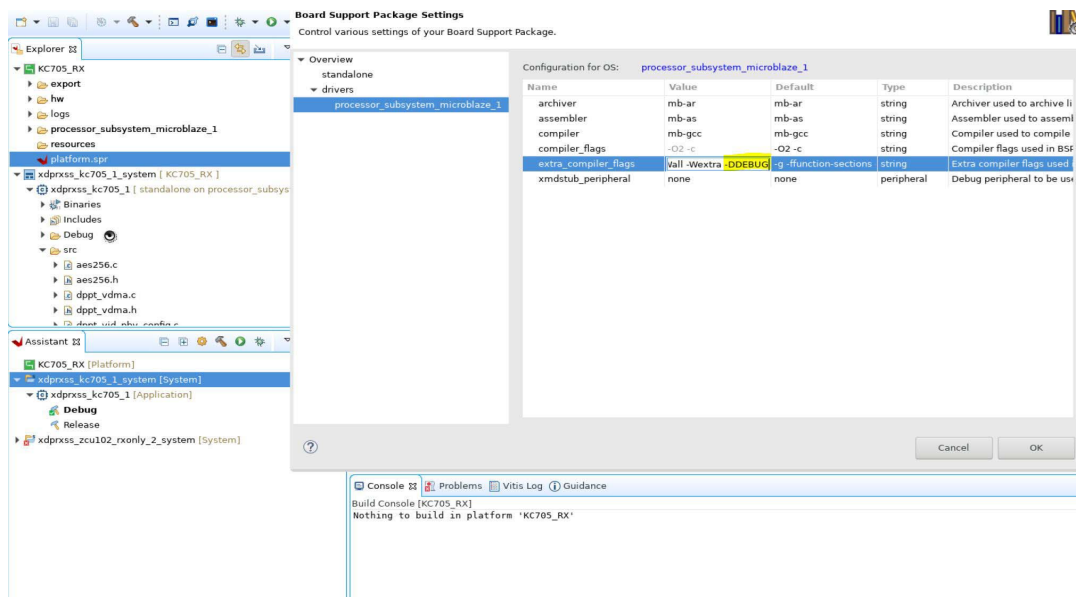

Figure D-2: Path to Board Support Package Settings
2. Add the option `-DDEBUG` to the extra compiler flags then close the BSP settings (Figure D-2).